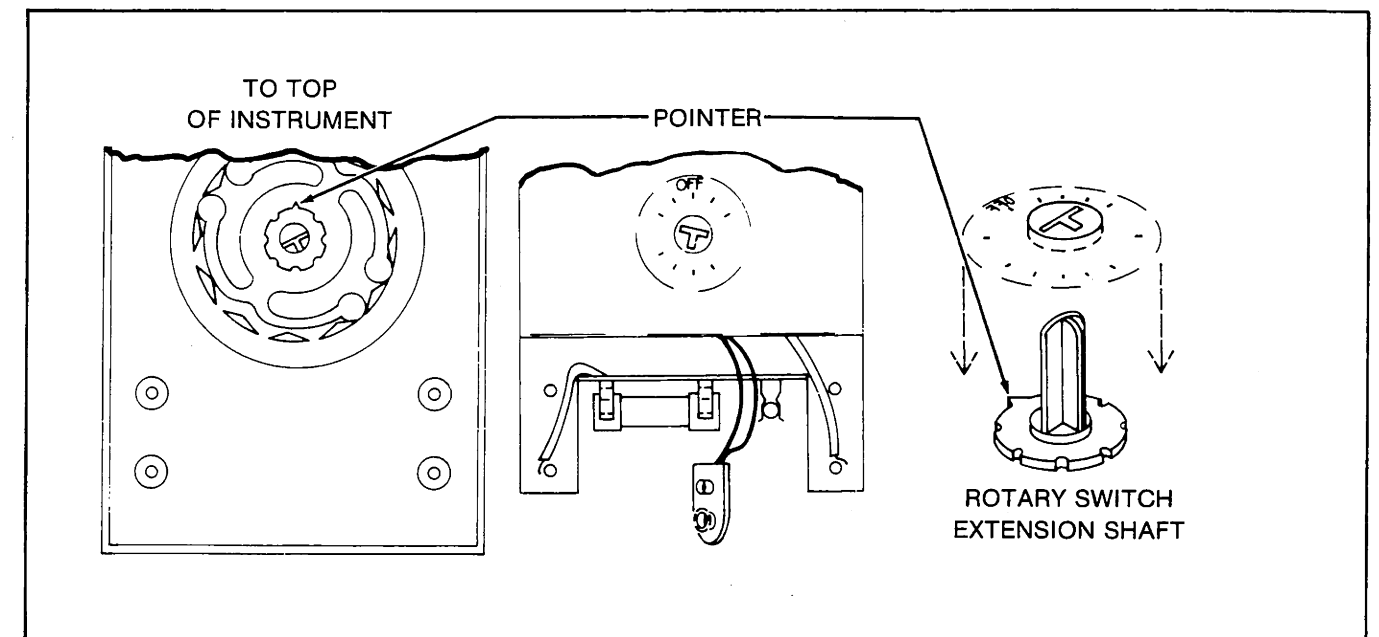

Figure 3-3. Switch Extension Shaft Installation
11. Note the position of the rotary switch extension shaft (MP17). With the rotary switch in the OFF position, the single small pointer on the base of the extension shaft is pointed toward the top of the instrument. Refer to Figure 3-3.